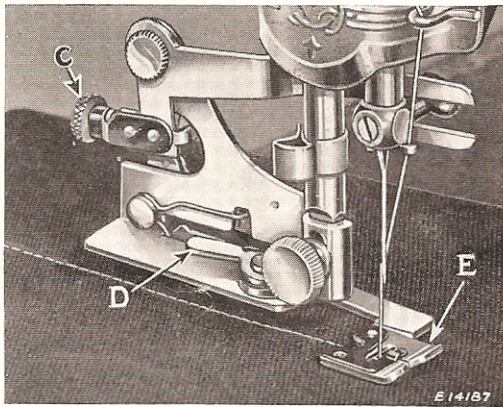

Fig. 6. Plain Stitching.
Stop the machine just before the needle enters the goods, and raise the presser bar. Move the foot (E) to its right-hand position, then move the straight stitch lever (D) all the way back to the position shown in Fig. 6. This will automatically bring the foot back to its central position in line with the needle.